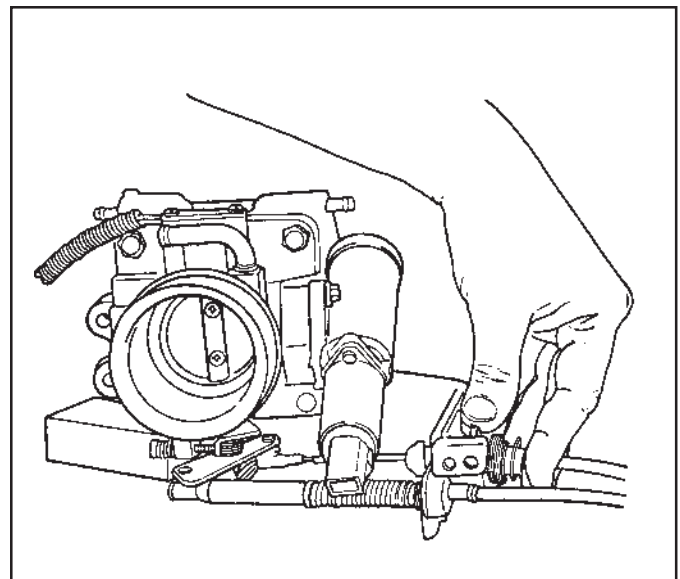

Figure 15
- 5.8 Push on the slider from behind bracket until TV pressure is 227 kPa (33 psi). While still holding slider, push down on toggle lever as far as it will go, locking slider in position. (See Fig. 15.) **NOTE:** Toggle lever must be completely down (lying flat in cable adjuster assembly) to lock properly.